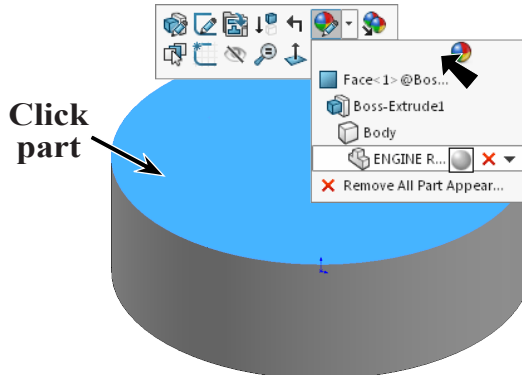

Fig. 5
Step 1. Click the part to select, click **Appearance Callout**  on the content toolbar and click **ENGINE R..** . **Fig. 5.**